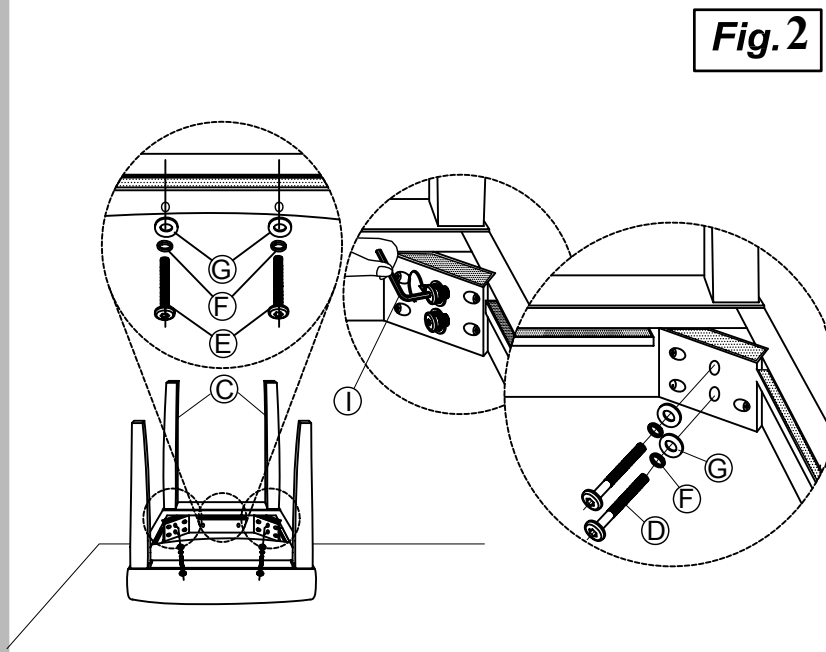

Fig.2
2. Fix the back stand (C) onto the dowels as shown in **Fig.2**. Secure the long JCBC screws (D) using spring washers (F) and flat washers (G) as shown in **Fig.2**.
Secure the short JCBC screws (E) using spring washers (F) and flat washers (G) as show in **Fig.2**.